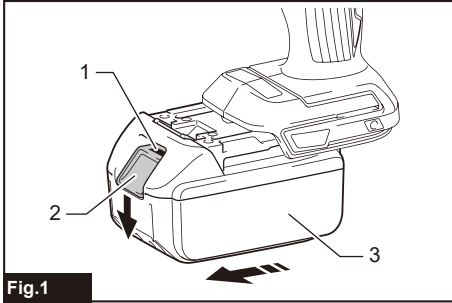

Fig.1
► Fig.1: 1. Red indicator 2. Button 3. Battery cartridge